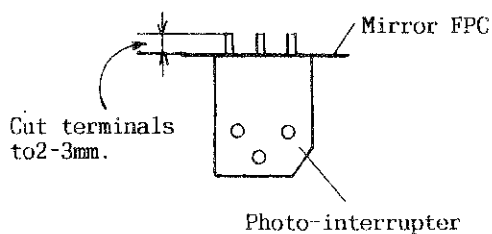

Fig.33
- 7) Install the Photo - interrupter (5ENCRP11133**01) on the Mirror FPC (1AG50400) and solder the five terminals of the Photo - interrupter. (See Fig.33)
- 9) Install the Mirror FPC on the Mirror Box Base Plate (2).